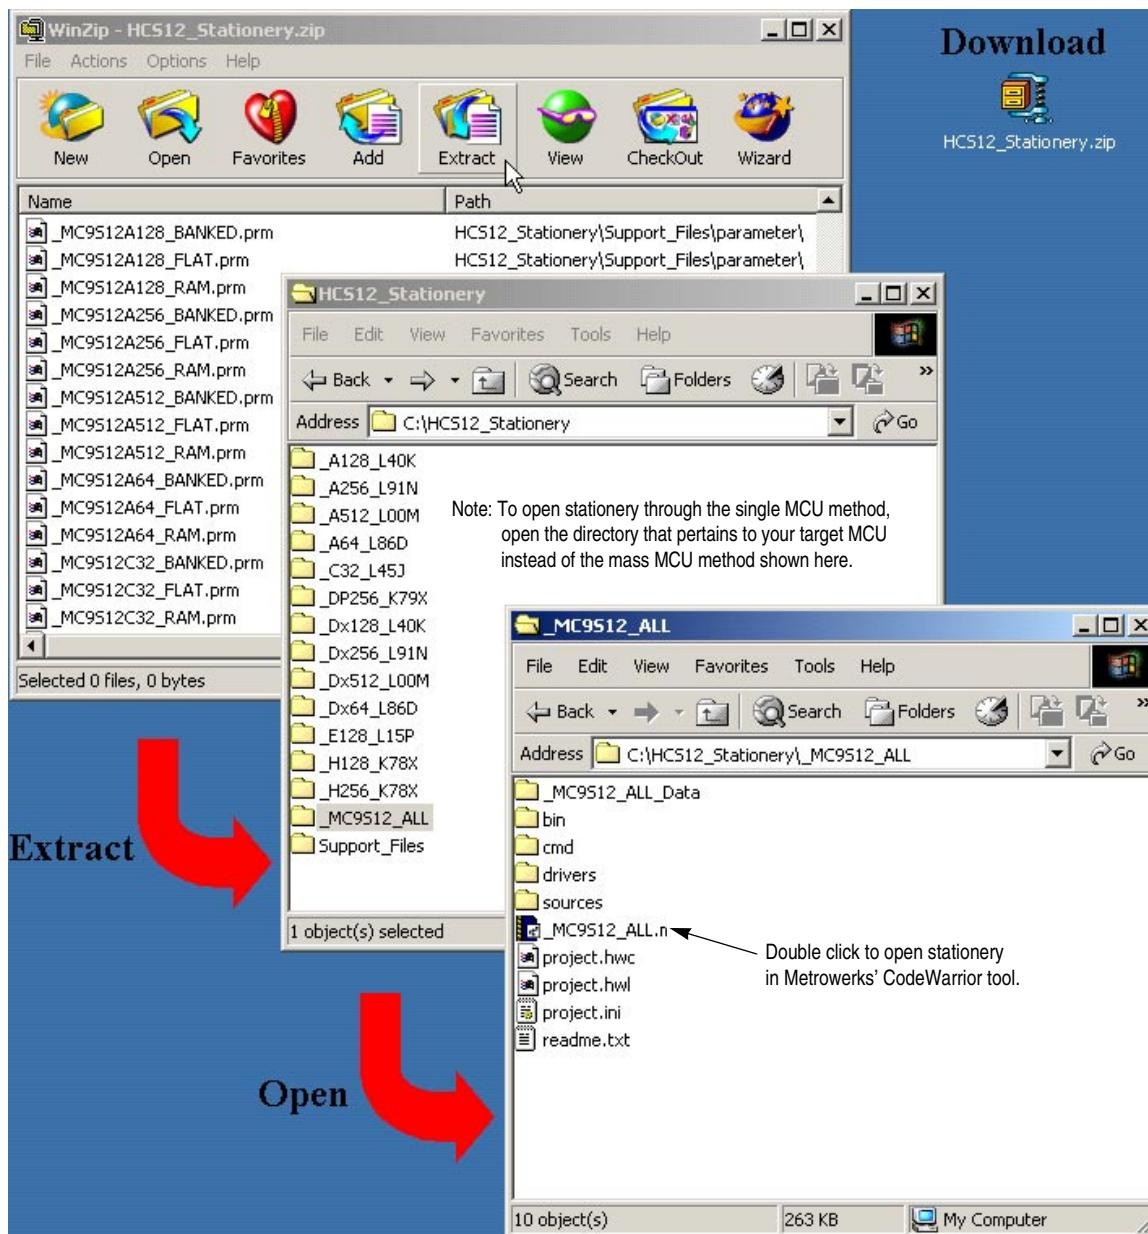

Figure 11. Downloading, Extracting, and Opening Stationery
7. Open the *.mcp file (CW project file) in the new project directory (if you executed Steps 4-6) or in the original Mass or Single MCU directories as shown in Fig. 11. This will load a ready-to-go template project using the stationery (Mass or Single MCU) that you selected.
Figure 11 illustrates the first three steps.